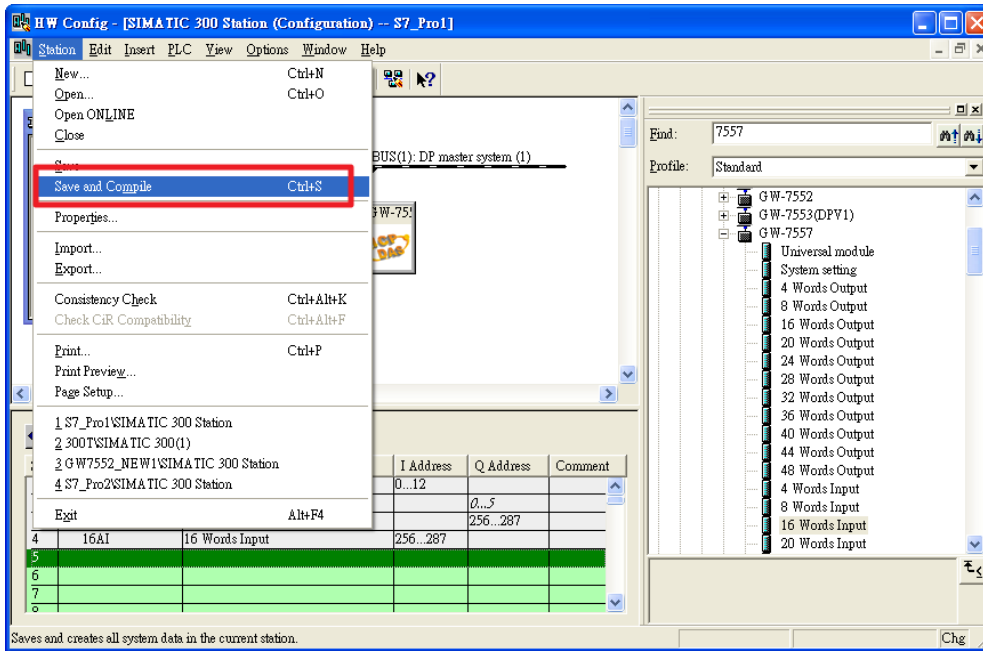
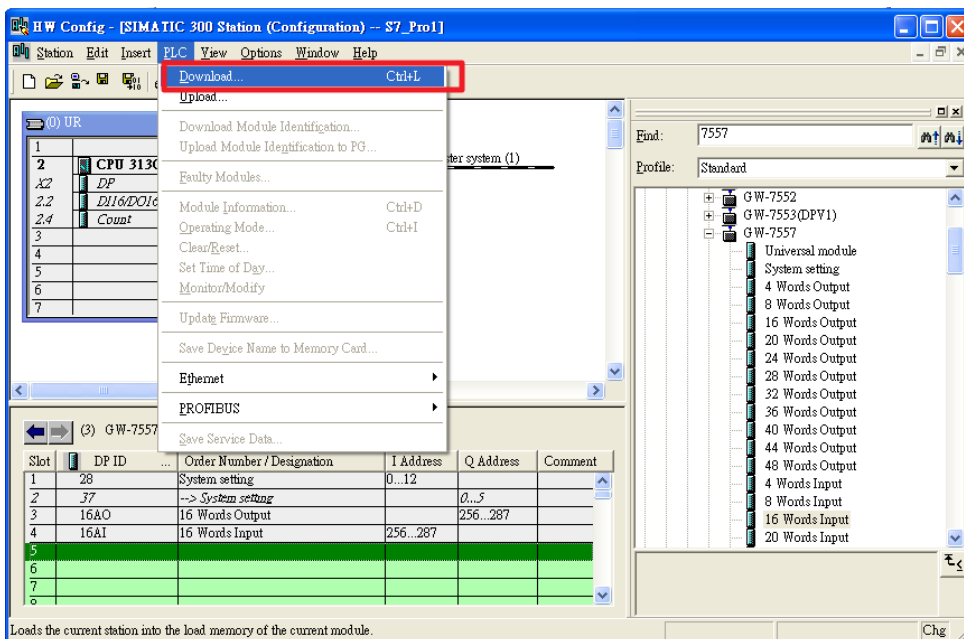

Figure 26 Click <Save and Compile>
Figure 27 Click <Download> to download configuration into PROFIBUS master
Step 5: Click <Save and Compile> then click <Download> to download the configuration into PROFIBUS master, as shown in Figure 26 and Figure 27.